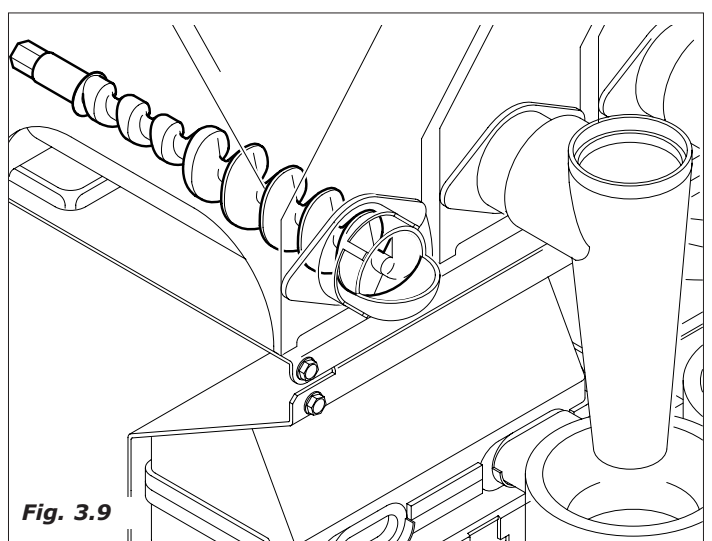

Fig. 3.9
- The instant product geared motor activates the helicoidal screw conveyor so as to dispense the quantity of product programmed into the mixer (in some versions more than one product can be conveyed into the same mixer) (Fig.3.9)